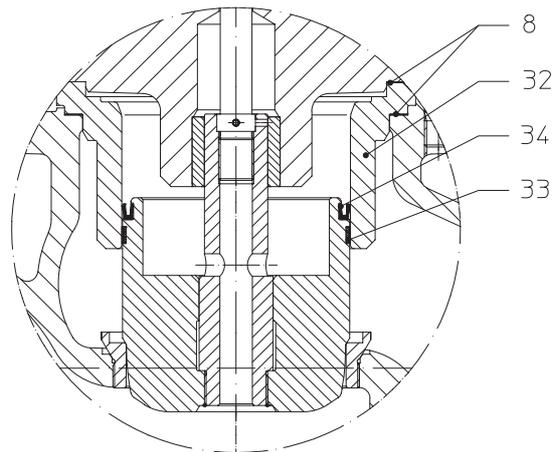

Fig. 17: Pressure balanced plug
**Refer to item 10.0 and 11.0 before dismantling the valve.**
- Remove plug as described in item 7.2.1.
- Prise worn piston seal (pos. 34) out of groove in plug with suitable tool (e.g. screwdriver).
- Insert new piston seal (pos. 34), taking care that it is in the correct position (refer to Fig. 17).
- Replace guide ring (pos. 33).
- Clean sliding surface of guide bush (pos. 32); smooth with fine abrasive if necessary.
- Replace 2 gaskets (pos. 8).
- Secure with nuts (pos. 10) and tighten them crosswise.